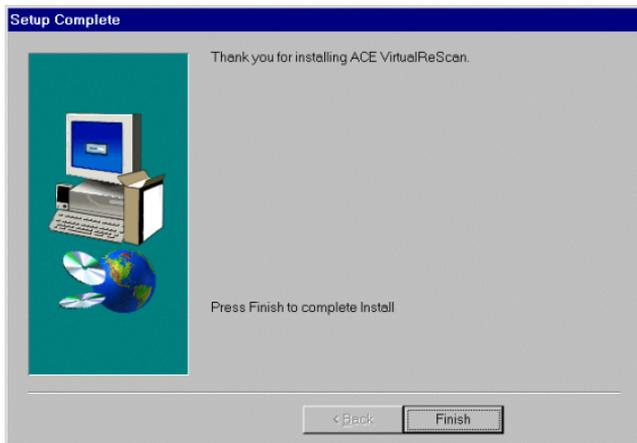

Figure 4. Setup Complete Dialog Box
- 5 Click Next. The installation begins, and a progress indicator stays in view until the process is done. When the ACE VRS installation finishes, the Setup Complete dialog box displays, similar to Figure 4.